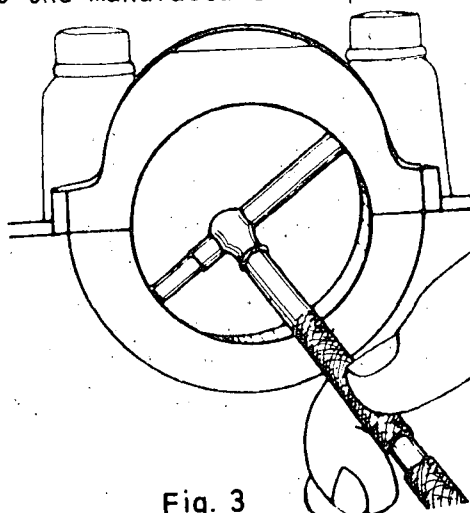

Fig. 3
- f) Measure the inside of each one of the main bearings and compare it against the manufacturer's specifications (fig. 3).